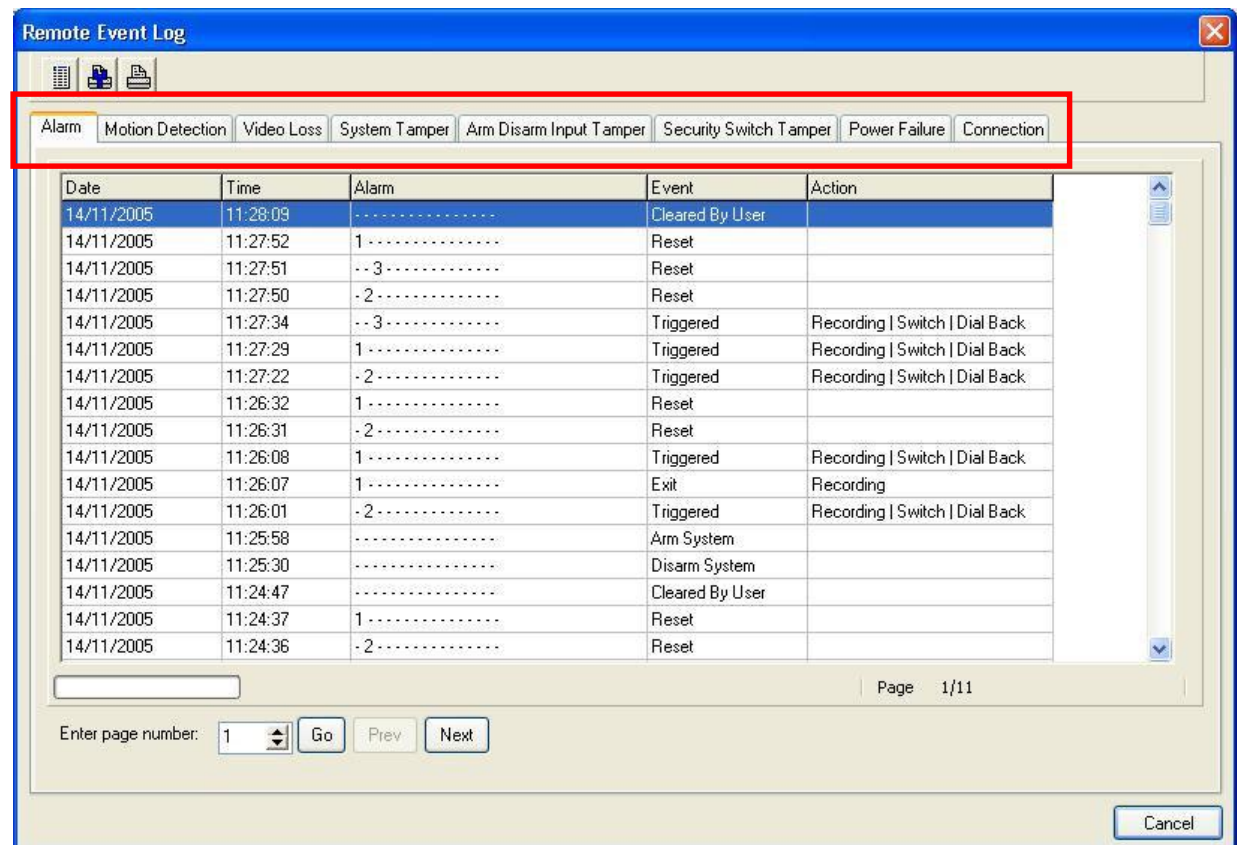

Fig 8.3.3b
Step 2 : {Remote Event Log} panel is shown on Fig 8.3.3b. User can select different event menu.